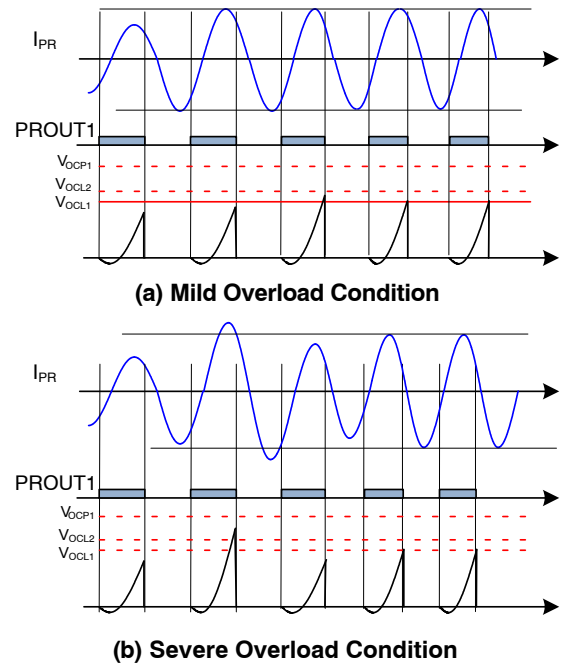
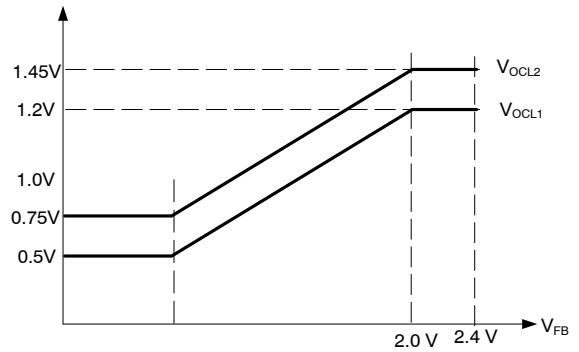

Figure 64. Current Limit of the ICS Pin by Frequency Shift (Compensation Cutback)
Figure 65. Current Limit Threshold Modulation as a Function of Feedback Voltage
- Over-Current Limit: The V_{ICS} peak value is also used for input current limit. As can be seen in Figure 64, there exist two different current limits (fast and slow). When the V_{ICS} peak value increases above the slow current limit level (V_{OCL1}) due to a mild overload condition, the internal feedback compensation voltage is slowly reduced to limit the input power. This continues until the V_{ICS} peak value drops below V_{OCL1} . During a more severe over load condition, the V_{ICS} peak value crosses the fast current limit threshold (V_{OCL2}) and the internal feedback compensation voltage is quickly reduced to limit the input power as shown in Figure 64 (b). This continues until the V_{ICS} peak value drops below V_{OCL2} . The current limit threshold on the V_{ICS} peak value also changes as the output voltage sensing signal (V_{FB}) decreases such that output current is limited during overload condition as shown in Figure 65. In addition, these limit thresholds change to higher values ($V_{OCL1.BR}$ and $V_{OCL2.BR}$) when the converter operates in deep below resonance operation for a longer holdup time (refer to holdup time boost function)